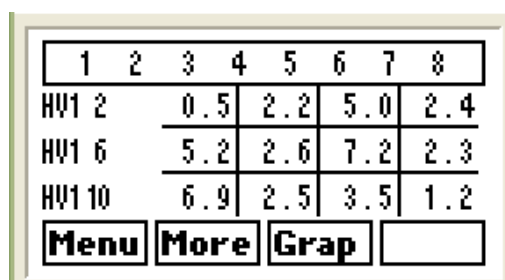

Fig. 109.- Numerical display of harmonics
- Numerical values or bar graphs can be displayed for each variable (see Fig. 109 and 110).
- Each numerical harmonics display screen shows a table with the value of 12 harmonics (example on Fig.109, row HV1 2 shows the voltage harmonic values of phase 1, of the order of 2 to 5. The next row shows the order from 6 to 9, etc.). Press **More** to see up to the harmonics order 33.